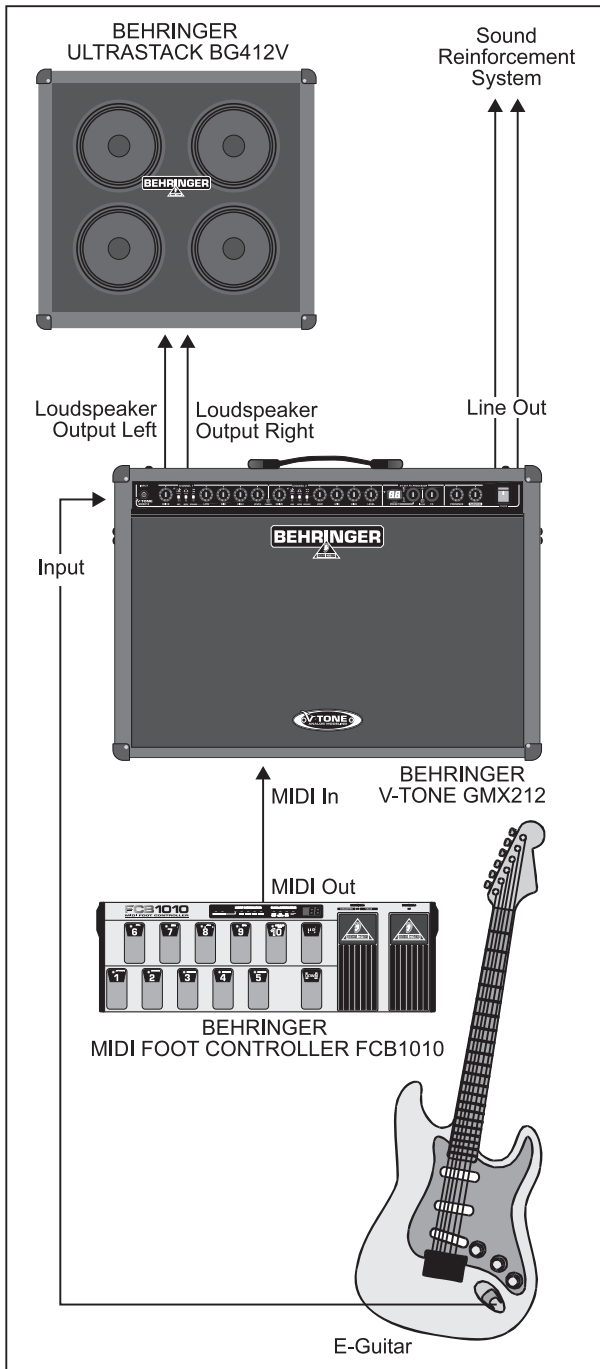

Fig. 3.3: Setup with a MIDI foot controller and an external loudspeaker
- ▲ Connect the MIDI IN connector of your V-TONE to the MIDI OUT jack of a MIDI foot controller (see fig. 3.3).